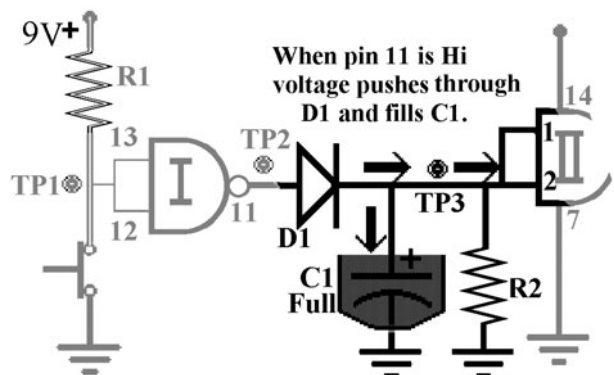

Figure L21-2
2. Measure the voltage at TP3 with the push button held closed and record your results. Figure L21-2 shows that as long as the NAND gate's output at pin 11 is high, the voltage and current push through D1 and do two things. They influence the inputs of the second NAND gate and fill the capacitor.